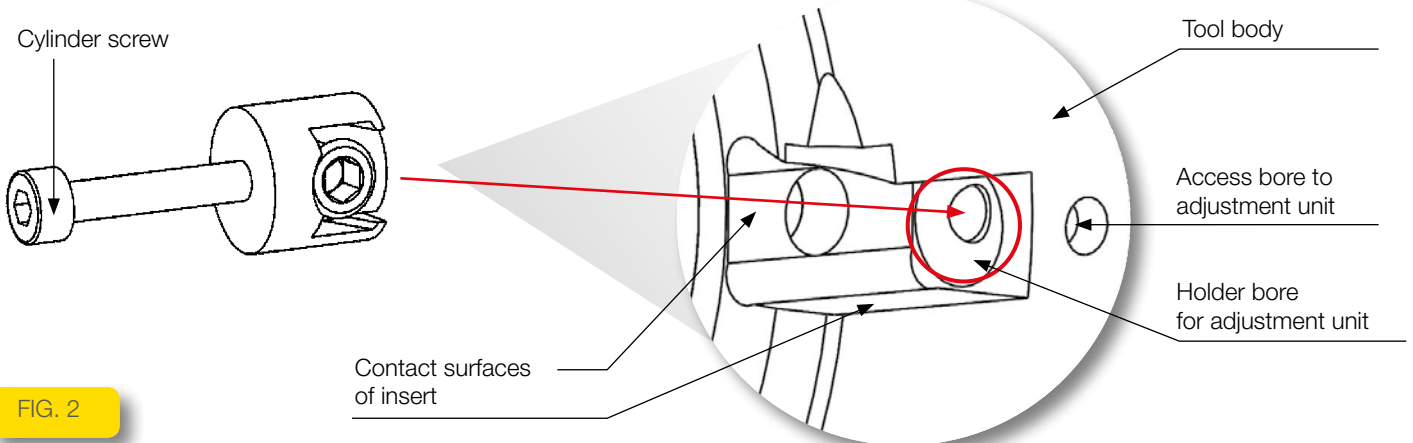

FIG. 2
- Engage the hexagon (SW3) of the threaded pin via the access bore and unscrew anti-clockwise to the stop. (fig. 2)